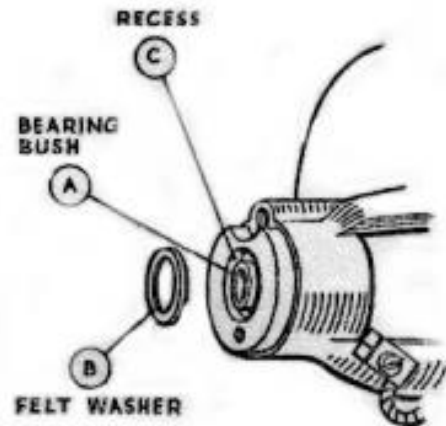

Fig. 63. Commutator end bracket with bearing bush.
(a) Press the bearing bush (A, Fig. 63) out of the commutator end bracket and remove the felt ring (B).